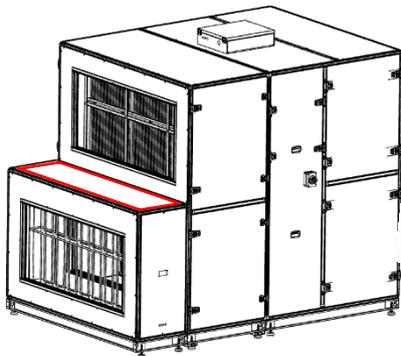

Fig. 138
- Apply the gasket on the top of the module (Fig. 138)